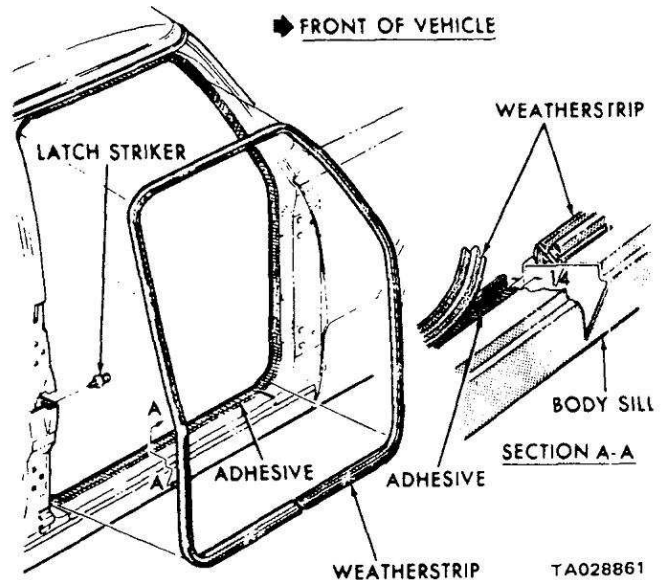

Figure 2-106. Door Weatherstrip.
(10) Install the front and rear weatherstrip assembly, as shown in figure 2-106.
(1) Apply an adhesive to the door opening. Allow it to dry until it's tacky.
(2) Apply adhesive to the weatherstrip and press it against the door opening as shown in figure 2-106.